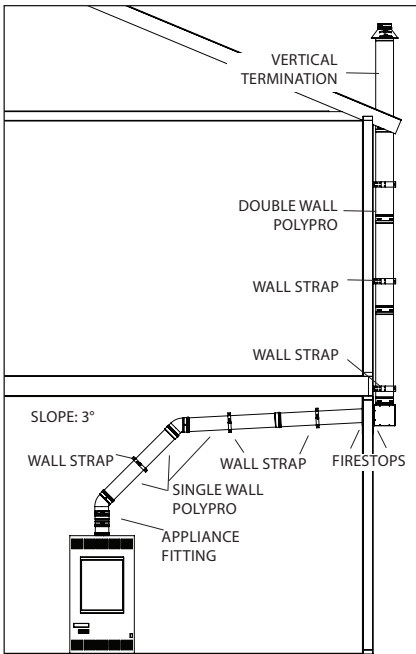
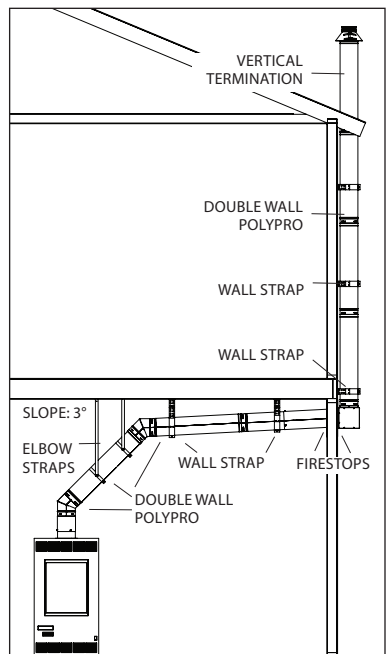
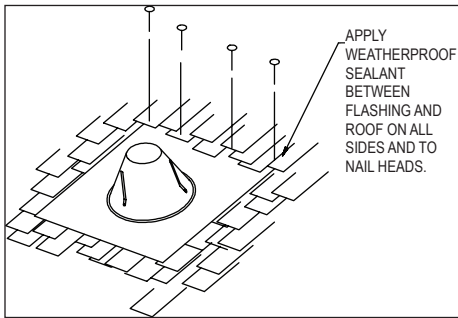

Figure 8- Single Wall / Double Wall
Figure 9- Double Wall
Figure 14- Flashing
- Run the vent system up the exterior wall and terminate vertically (**Fig.8, 9**). **Fig.8** depicts single wall PolyPro run inside the structure, which transitions to Double Wall PolyPro for external use. **Fig.9** depicts Double Wall PolyPro used for the entire vent length.
For **Fig.9**, install the vent from appliance to near the wall penetration. Recommended to install last horizontal pipe section onto the 90 degree elbow and then through the wall, connecting to the vent installed prior. Support the vertical sections with wall straps to the external wall surface, each vertical section needs a support.
Terminate the vent system above the roof line as depicted in **Fig.8, 9, 10, 13**. Flashing is shown in **Fig.14**.